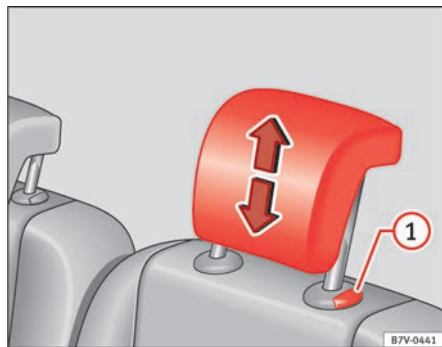

Fig. 87 Removing the rear head restraint.
- Pull the head restraint out of the fitting without releasing the button ⇒ fig. 87 (1).